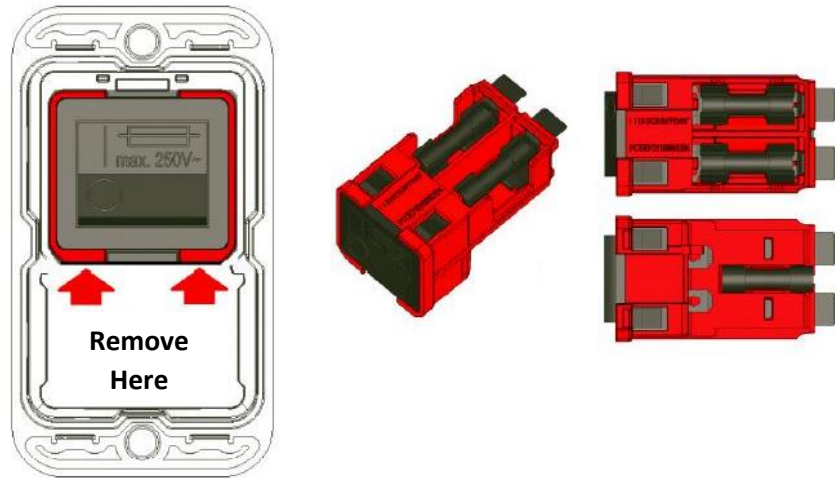

Figure 27
2.) Place the end of a 1/8" flat head screwdriver into one of the holes in bottom of the fuse holder. Pry the fuse holder out of the power entry module. See Figure 27.